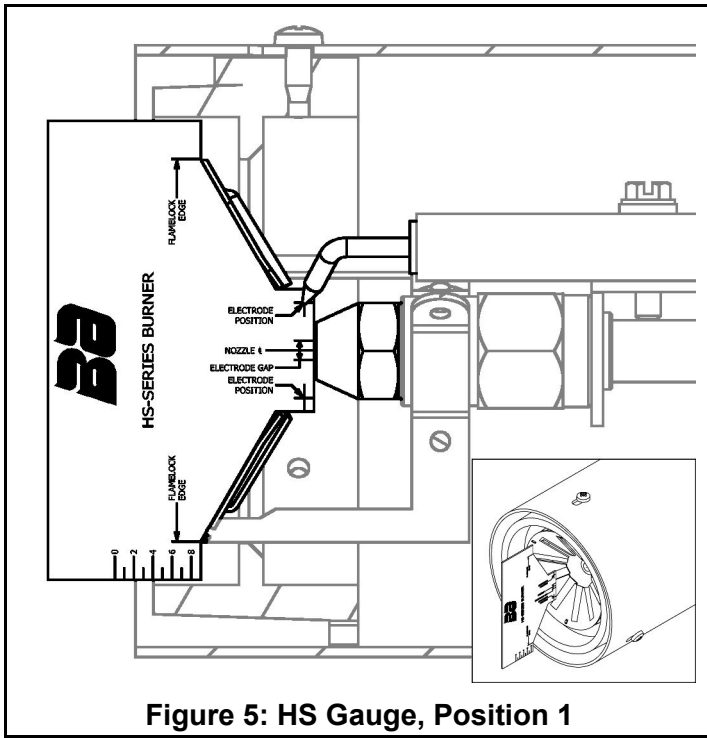

Figure 5: HS Gauge, Position 1
1. To check the height of the electrodes and the distance from the nozzle face the electrode tips, place the gauge in the end of the burner nozzle as shown in Figure 5.